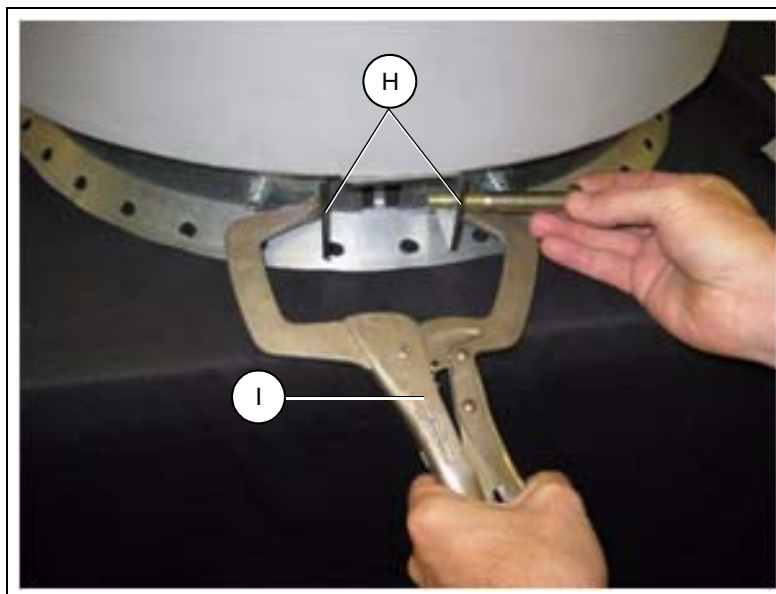
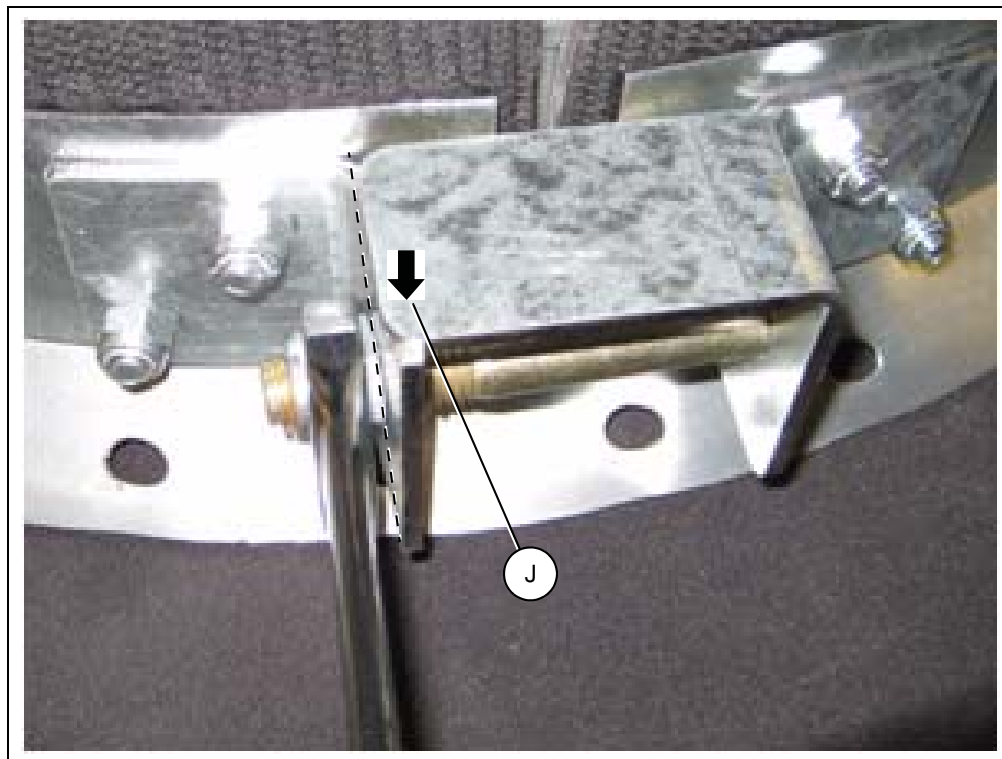

Figure 11C Mount Lid to Peak Ring
Figure 11E *Tighten Bolts Until Flush with Bracket*
2. Place the lid assembly over the existing peak ring collar and rotate lid assembly such that the lever arm and spring hinge line up with the roof eave bracket, See Figure 11A on Page 57. Use a clamp to pull the mounting brackets together. Slide the 3/8" carriage bolt supplied through the mounting bracket and loosely fasten with nut, See Figure 11C. Remove clamp and tighten the bolt with 9/16" ratchet, ensuring that the vertical flange tightens past the left edge of the top, horizontal flange, See Figure 11E on Page 59.